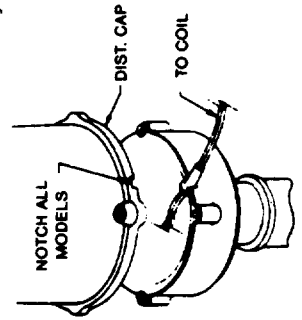

FIGURE 3
3. Remove rotor (1). Examine rotor and replace it if the electrode shows excessive pitting or burning.
4. Remove screws (2), dust cap (3) and entire breaker plate assembly (4). Retain these parts for back-up in the event of failure. Dust cap is not used with Ignitor installation.
6. Using the same screws (2) that were removed, install the new plate (5).
7. Install the module (6). Holes (7) fit over studs (8) and module is secured by keep nuts (9). Do not tighten the nuts all the way at this time.
8. Install the magnet sleeve (10) over cam or distributor shaft. Locate on cam and press firmly into position.
9. Using the plastic feeler gauge supplied, adjust the gap between the module and the magnet sleeve. Gap should be approximately .030". Tighten the two kee nuts (9) securely. Rotate the distributor shaft through a complete revolution and verify that there is always an air gap between the module and the sleeve. The module must not touch the magnet sleeve at any time.
10. Install the rotor (1) making sure it is fully seated.
11. Refer to Figure 3. It is necessary to file a slot in the cap to allow for the larger grommet on the Ignitor System wire harness. Using the indentation on the rim of the cap as a guide, file away enough material so that the grommet will not be pinched when the cap is securely fastened. A slot 3/16" deep by 1/4" wide is sufficient. **IT IS IMPERATIVE THAT THIS SLOT BE FILED INTO THE CAP. FAILURE TO DO SO COULD RESULT IN AN ELECTRICAL SHORT CAUSED BY BREAKING THE INSULATION ON THE WIRE HARNESS.**